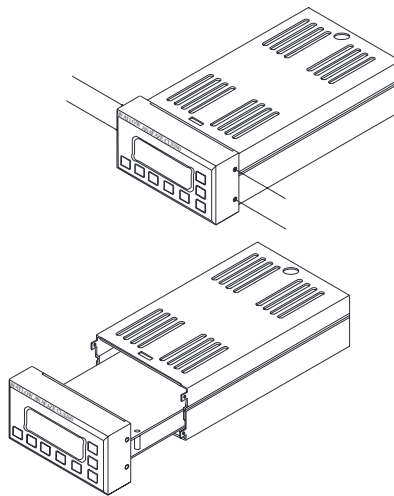

Figure 9.1 Removal of Electronics Assembly from Case
4. Remove the electronics assembly from the case, as shown in Figure 9.1.